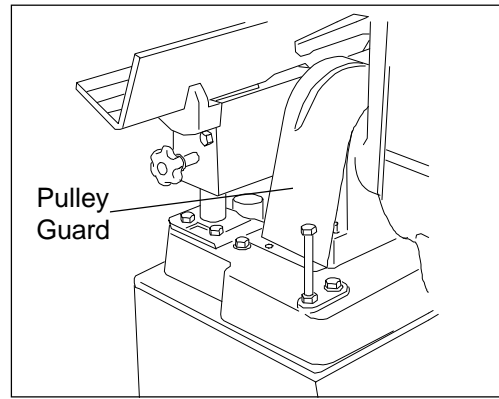

Figure 13: Removing pulley guard
3. Remove pulley guard (47) by removing four screws (131). (Refer to Figure 13.)
4. Remove screw (89), washer (90), cutter wheel (91), and sleeve (44). Remove key (42) and key (41) from shaft (40).
5. Remove four screws (112), spring washer (54), and washer (53). Remove entire edge mill worktable and its support components from base (51).